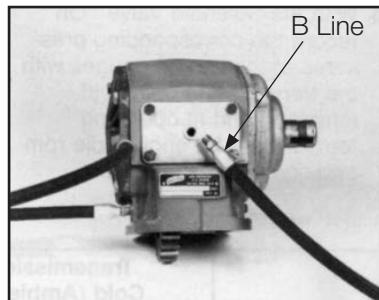

Figure 22
4. Remove the B line from the PTO with the Solenoid Valve On. No oil should appear from the line. Then turning the Solenoid Valve to Off should dump the oil from the PTO Clutch Pack through this line (**Fig. 22**).